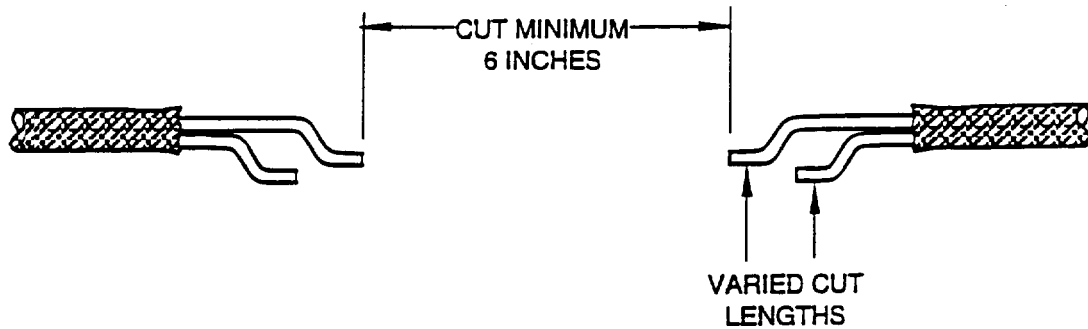
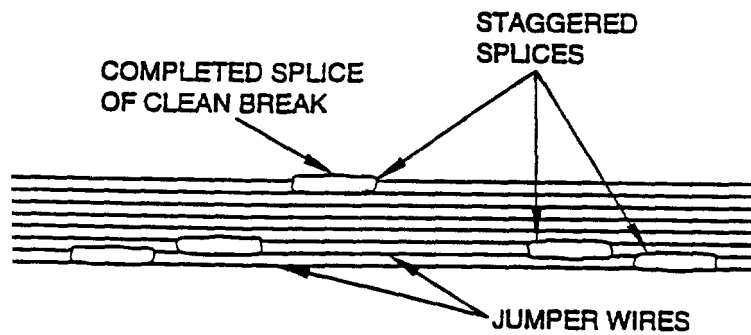

Figure 24. Jumper Wire Repair
Figure 25. Staggered Splices
- g. If jumper wire must be used remove 6 inches of wire as shown in Figure 24.
j. If multiple jumpers are being used, stagger the jumper splices as shown in Figure 24 and Figure 25.